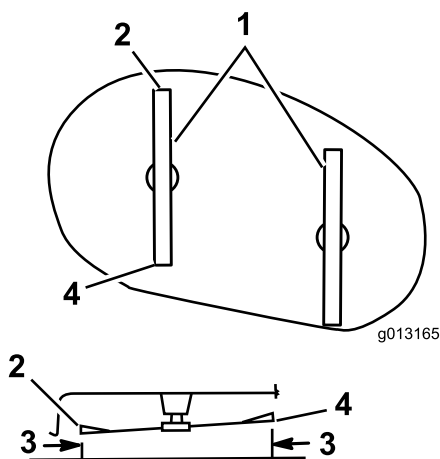

Figure 41
1. Measure the distance between the front tip of the left blade and the flat surface (Figure 41). Repeat for the rear tip of the left blade.